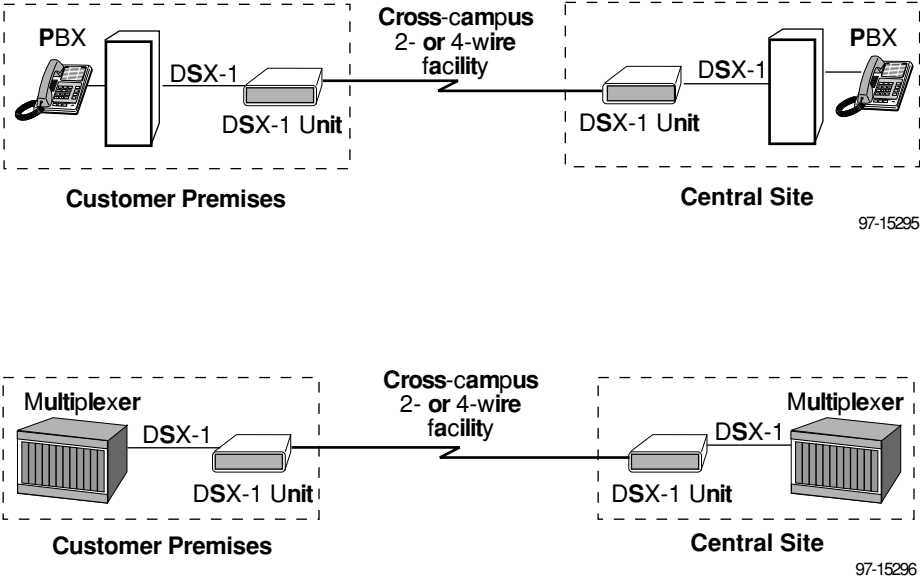

Figure 1-1. Campus Network Applications
Figure 1-1 shows two typical campus applications where remote PBXs or multiplexers are interconnected across a campus using two HotWire Model 7924 standalone units. In each pair, one unit is configured as a central site unit or central office (CO) and the other is the customer premises (remote) unit (CP).
Each HotWire Model 7924 standalone unit is configured at the factory to operate at the CP side of an T1 HDSL connection. However, you can easily reconfigure a unit for use at the CO end, as would be necessary for the configurations in Figure 1-1. (Conversely, HotWire Model 7924 nest cards are preconfigured for CO operation.)